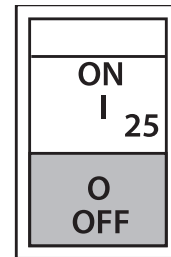

Figure 23. Main Circuit Breaker (OFF)
3. **NEVER** start the engine with the main circuit breaker in the **ON** position. Always place circuit breaker (Figure 23) in the **OFF** position before starting.